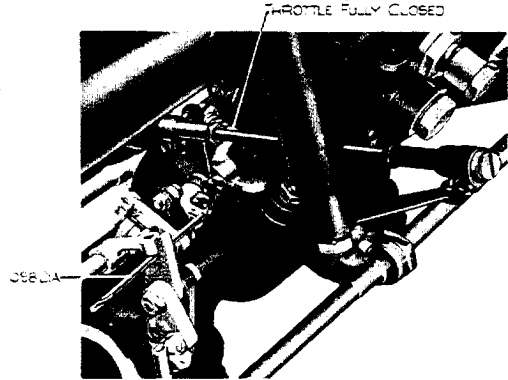

FIG. 2. FAST IDLE CAM AND LEVER ADJUSTMENT.
2. With front carburetter throttle fully closed, tighten coupling pinch bolt to give .098" clearance between the fast idle cam and the cam lever, see Fig. 2. The cam adjusting screw hole should be central with the cam face. Hold rear carburetter throttle in fully closed position and tighten remaining pinch bolt in shaft coupling.